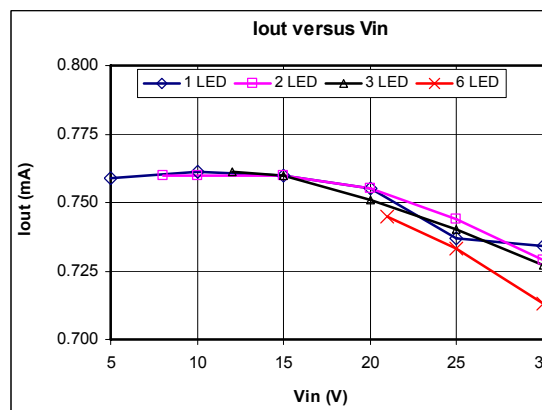

Fig. 5: Output Current vs Input Voltage
- i) Place the bypass capacitors C4 and C5 as close as possible to the XRP7604 IC. See figure 5 for details.